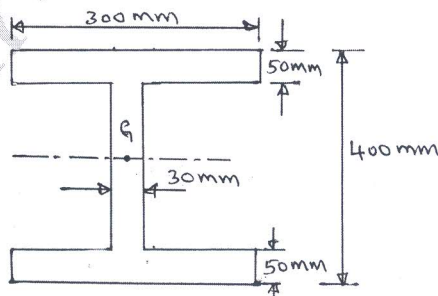

Fig. Q8 (b)
- b. A built up I-section has an overall depth of 400 mm is as shown in Fig. Q8 (b). It is used as a beam with simply supported ends and it deflects by 10 mm when subjected to a load of 40 kN/m length. Find the safe load if this I-section is used as a column with both ends hinged. Use Euler's formula. Assume a factor of safety 1.75 and take $E = 2 \times 10^5 \text{ N/mm}^2$. (10 Marks)